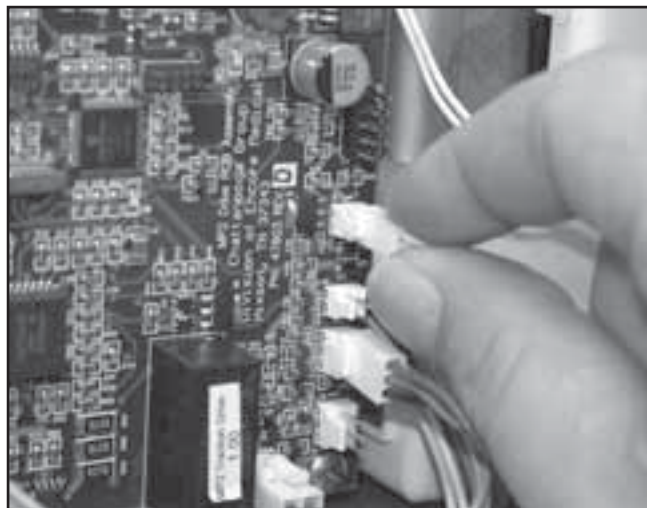

FIGURE 6.47
3. Disconnect the Solenoid Assembly Harness from Motor Control Board. See Figure 6.47.
3. Connect Solenoid Assembly Harness to Motor Control Board. See Figure 6.47.